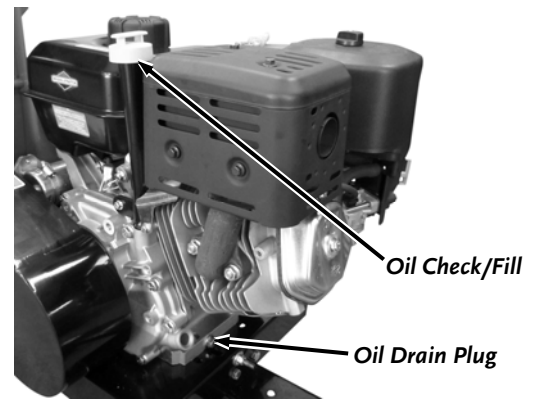

Figure 41a: 16.5 Model
1. Position a suitable oil receptacle under the engine oil Drain Plug and remove the Engine Oil Check/Fill Cap (**Figure 41a or 41b**).